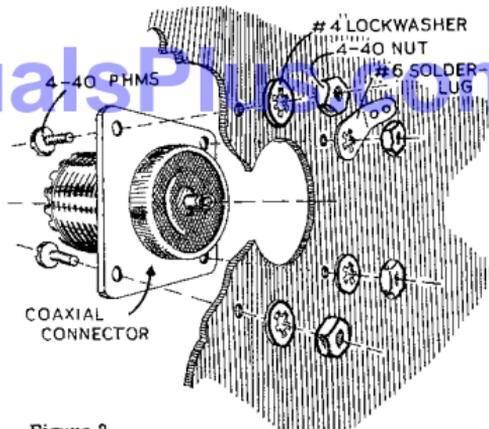

Figure 2
- (✓) Mount the coax connector, using the four 4-40 x 1/4" panhead screws, 4-40 nuts, three #4 lockwashers, and one #6 solder lug. See Figure 2. Position the #6 solder lug as shown in Pictorial 1.